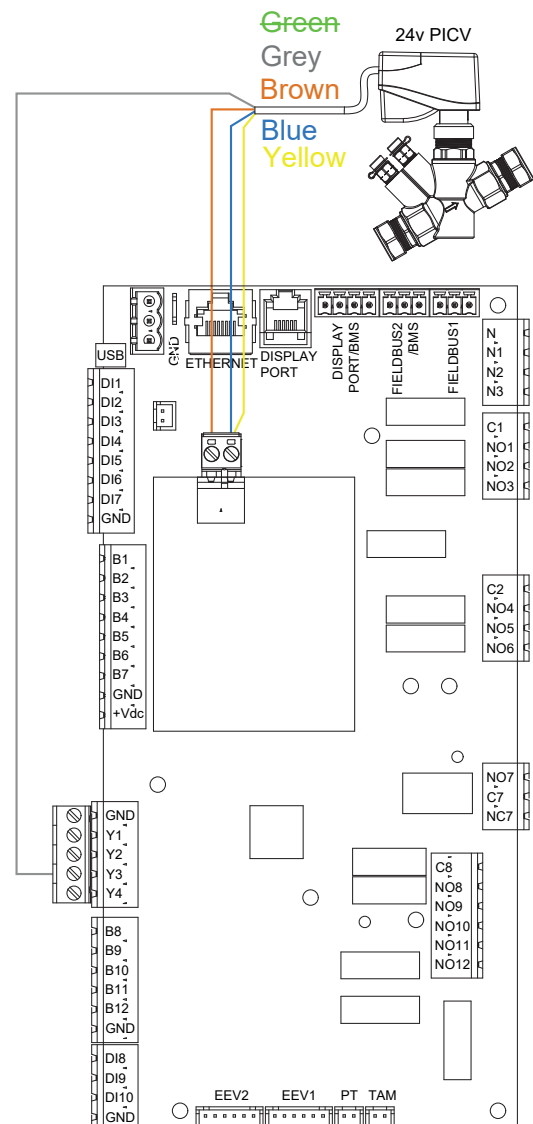

Fig. 105 : Flow Control Valve with Actuator Wiring
7. Re-wire as shown in Fig. 105. Note: Green wire should be trimmed back.